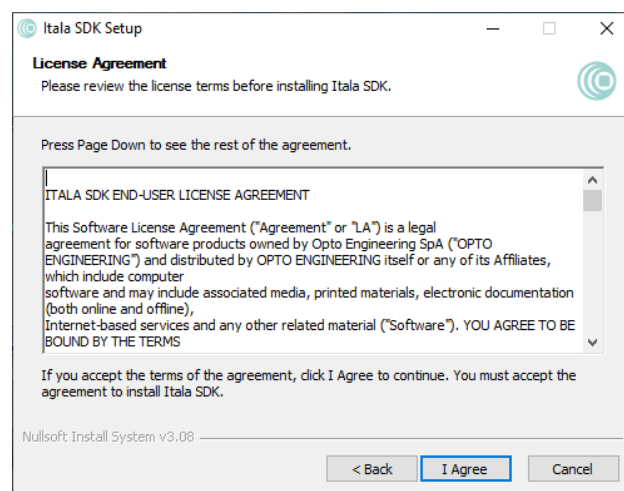

Figure 10: Itala SDK licence agreement window.
3. Check the licence terms before installing Itala SDK (Fig.10).